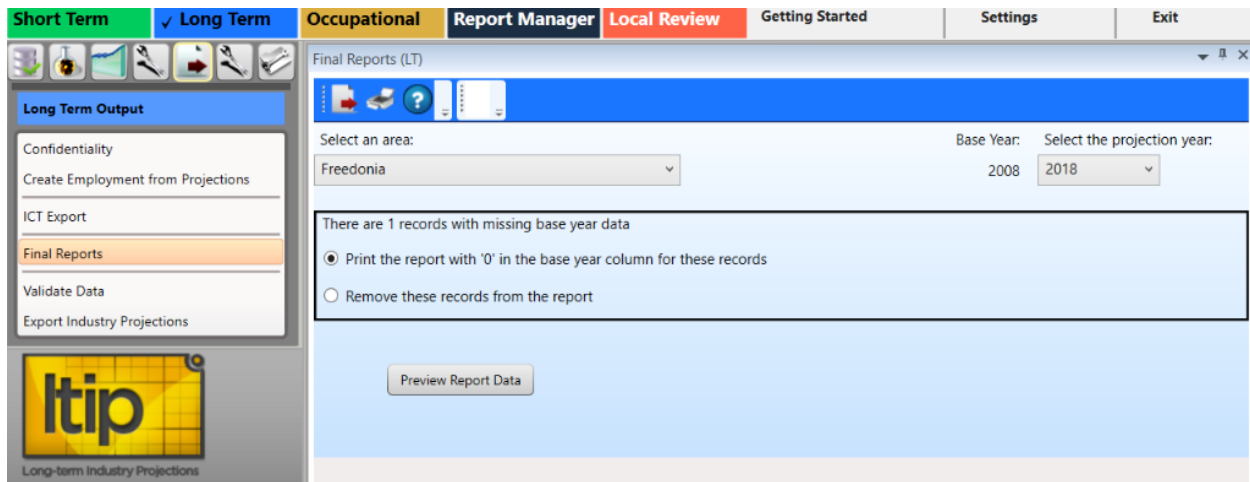

Figure 1: Final Reports module
2. **Select the projection year**. Upon selecting an area and projection year, a message will be displayed stating if the selected combination of area and projection year data contains any **records with missing base year data** (see Figure 1).